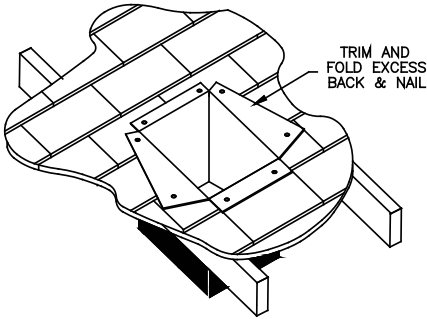

Figure 32
7. If the Support Box protrudes above the roofline use tin snips to cut from the top corners down to the roof line, and fold the resulting flap over the roof sheathing **(Figure 32)**. Before nailing it to the roof, run a bead of non-hardening sealant around the outside top edges of the Support Box so as to make a seal between the box and the roof. Clean out any combustible material or debris from inside the Support Box.
9. Connect the necessary amount of Pipe Sections to reach the stove and extend at least 12-inches above the roof before attaching Termination Cap **(Figure 32)**.